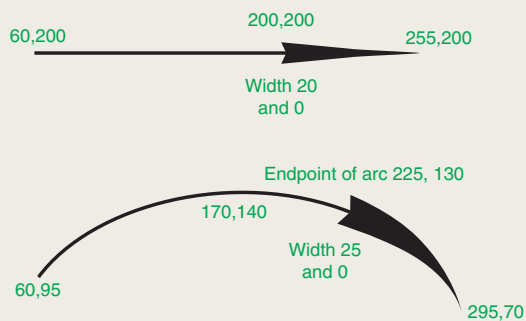

Fig. 2.36 Exercise 9
- With the **Polyline** tool construct the arrows shown in Fig. 2.36.